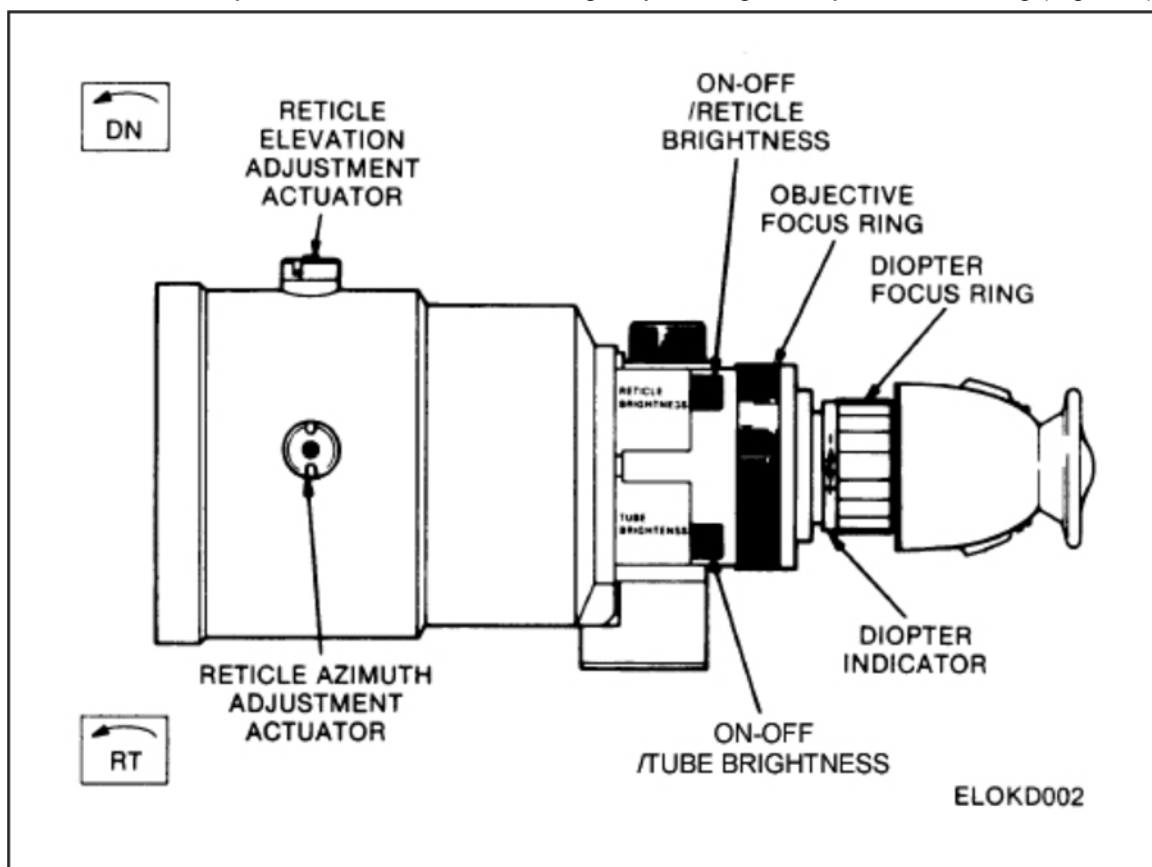

Figure 1. AN/TVS-5
- b. Adjust the diopter focus ring (Figure 1) until reticle lines appear sharp and clear.
- c. Focus the objective lens on the desired target by rotating the objective focus ring (Figure 1).